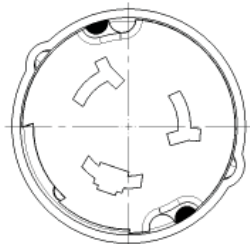

Fig. 2
- Slide cover down to blade holder and align two indents inside of cover with the two grooves on molded body. Push rear cover onto body fully and rotate slightly. This engages the two indents into tow pockets on face of the blade holder to prevent removal. See Fig. 2 (Indents are shaded black).